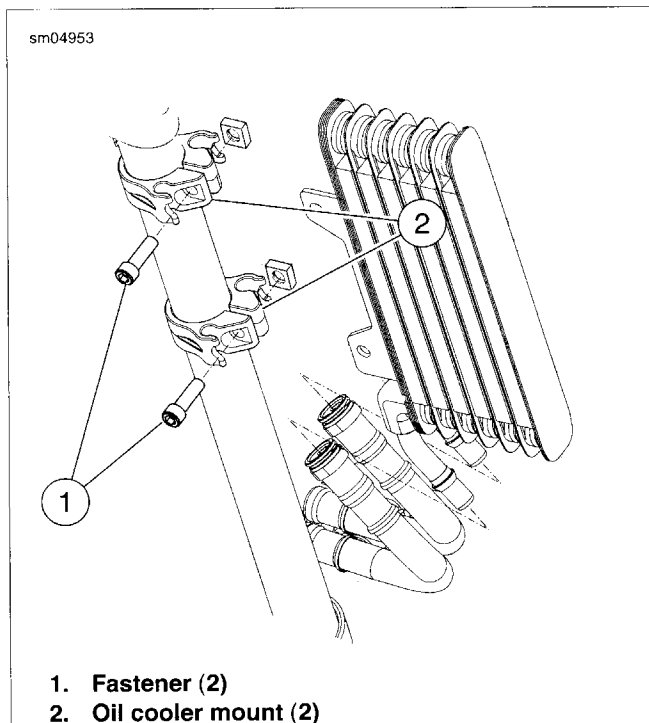

Figure 3-39. Oil Cooler Mounts
4. See Figure 3-39. Remove fasteners (1) securing oil cooler to frame brackets.
3. See Figure 3-39. Secure oil cooler to frame brackets. Tighten fasteners (1) to 36-60 **in-lbs** (4.1-6.8 Nm).